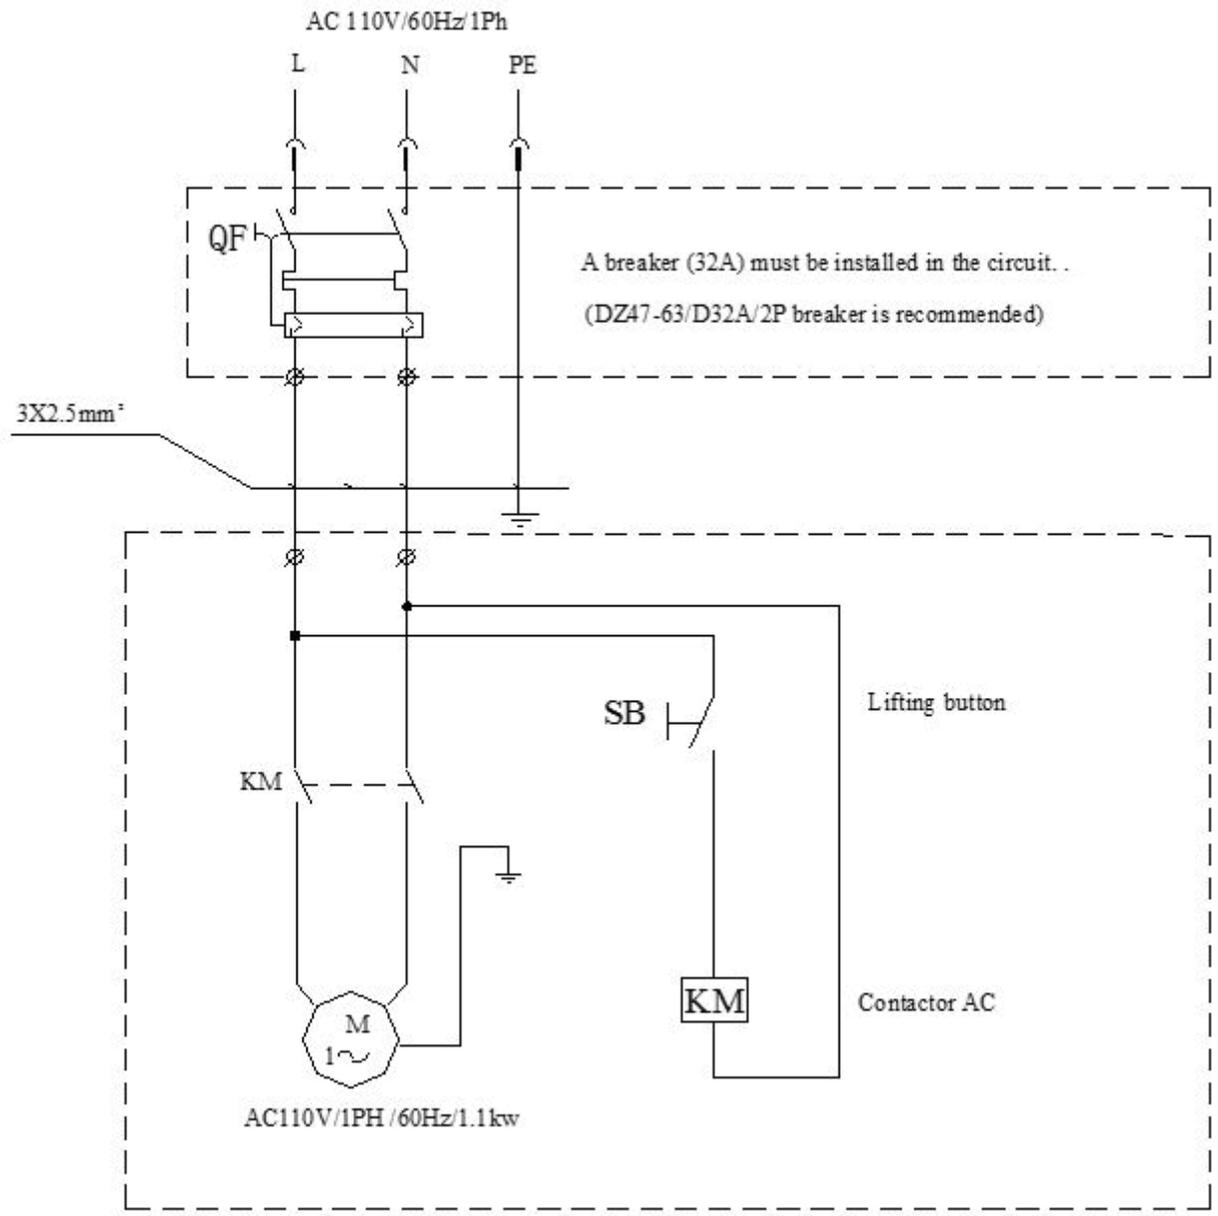

Figure 5 – Electrical Wiring Diagram (110V/60Hz/1PH)
Motor connection must be carried out referring to the attached wiring diagrams (figure 5). The motor direction of rotation is shown in the label placed on the motor.
- Make the electric hookup to the power unit referring to the attached the electric diagram figure 5 using the included electric cable.
- Make sure the electric connections are in compliant with diagrams figure 5.